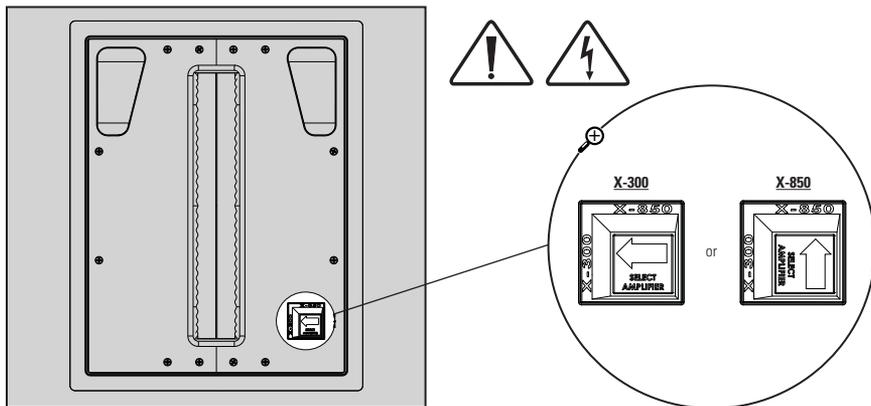

Fig. 1
**TO PREVENT DAMAGE TO AMPLIFIER OR SUBWOOFER, THE IMPEDANCE MATCHING SWITCH ON YOUR SUBWOOFER'S BAFFLE MUST BE POSITIONED FOR USE WITH THE DESIGNATED AMPLIFIER (See Fig. 1).**
To prevent damage to amplifier or subwoofer, the **Impedance Matching Switch** on your subwoofer's baffle must be correctly positioned (Fig. 1).